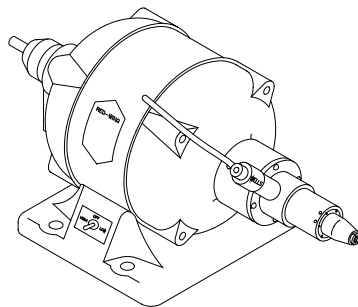

**Figure 11. Handle position**
- 9.1 Confirm the Quick Chuck handle is in the shipping position. See Figure 11.
10.2 If the handle stops **PAST** 9:30, the adapter must be moved **toward** the lathe. Move the handle back to the shipping position and remove the Quick Chuck. Loosen the clamp screws. Note the amount of gap between the adapter and lathe. See Figure 11. Using a block of wood to protect the adapter, tap the face of the adapter on alternate sides to move the adapter a little closer to the lathe (1/32" less gap). Temporarily tighten one of the clamp screws and fasten the Quick Chuck to the adapter with two opposing screws. Repeat step 10.1.
10.3 If the handle stops **BEFORE** 9:30, the adapter must be moved **away** from the lathe. Loosen the clamp screws. Note the amount of gap between the adapter and lathe. See Figure 11. Pry between the adapter and lathe on alternate sides to move the adapter a little further from the lathe (1/32" more gap). It may be necessary to wedge a screwdriver into the slot in the adapter to enlarge it. Temporarily tighten one of the clamp screws. Repeat step 10.1.